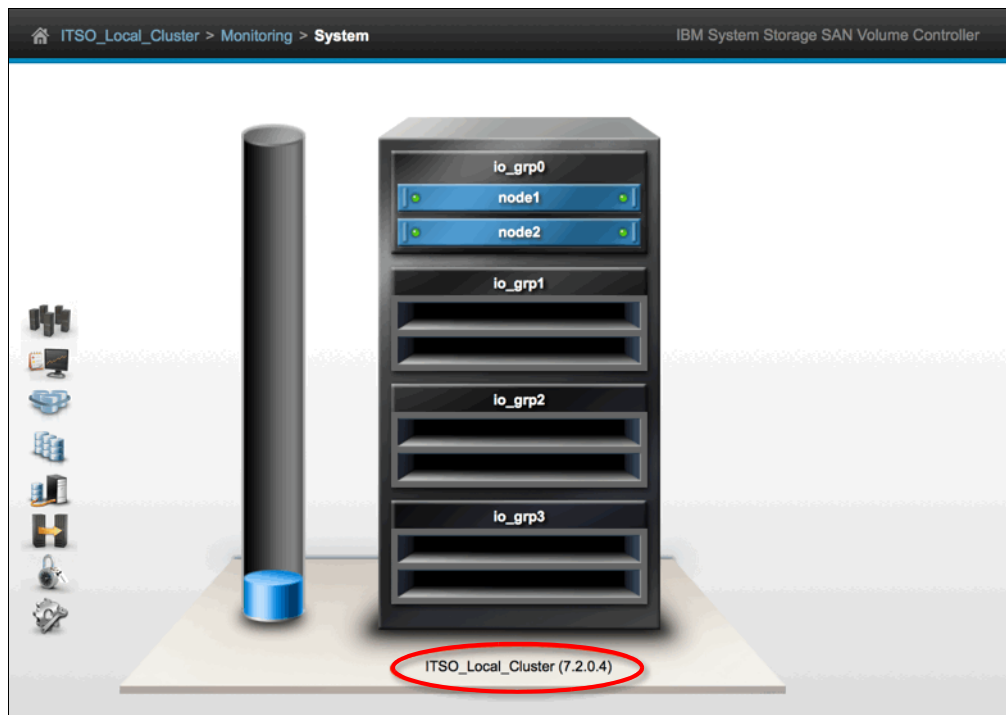

Figure 2 Confirming the SVC software version in the web-based GUI
2. The **System** window displays the SVC cluster name, along with the software version (in parenthesis) below the drawing of the SVC system, as shown in Figure 2.